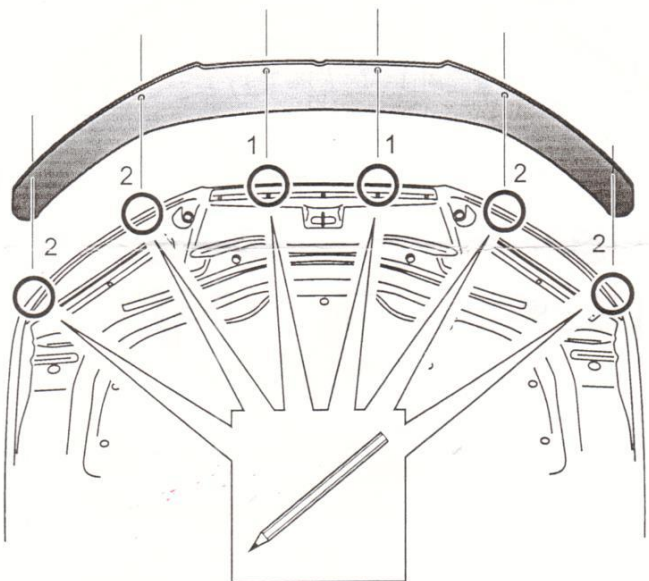

FIGURE 3
3. Note and mark with a non-permanent marker the positions of the two centre holes in the Bonnet Protector corresponding with the holes in the under side of the bonnet (1). Also note and mark the four outer wing clip positions corresponding to the outer holes of the Bonnet Protector (2). Remove the Bonnet Protector. Refer to figure 3.